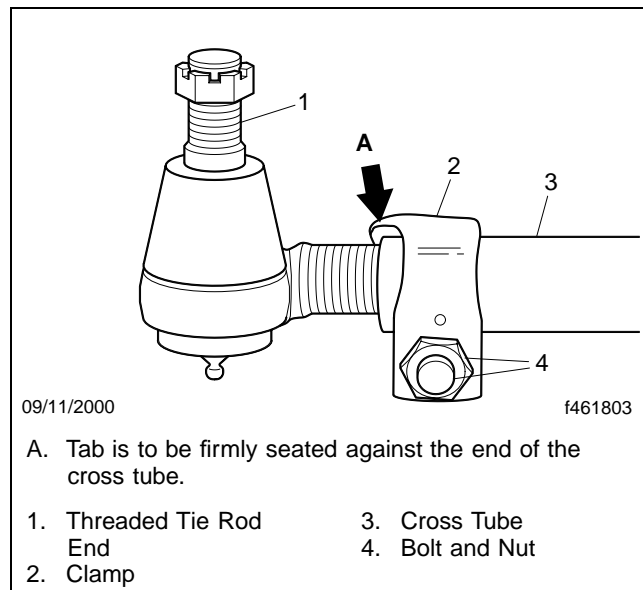

Fig. 6, Cross Tube Clamp
2. Check that the tab on the clamp is firmly seated against the end of the cross tube. See **Fig. 6**.